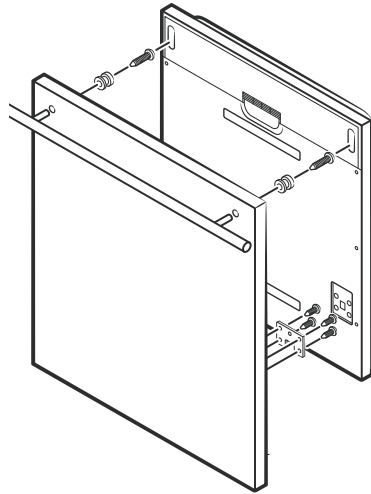
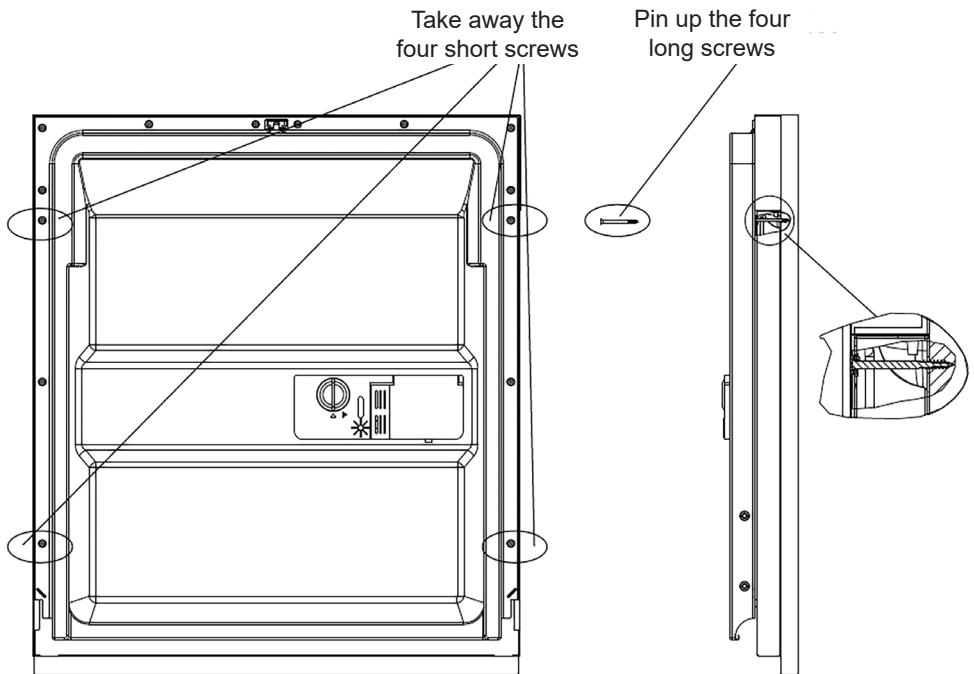

Figure 4a - Installation of aesthetic panel
Figure 4b - Installation of aesthetic wooden panel
2. Install the hook on the aesthetic wooden panel and put the hook into the slot of the outer door of dishwasher (*figure 4a*). After positioning of the panel, fix the panel onto the outer door by screws and bolts (*figure 4b*).